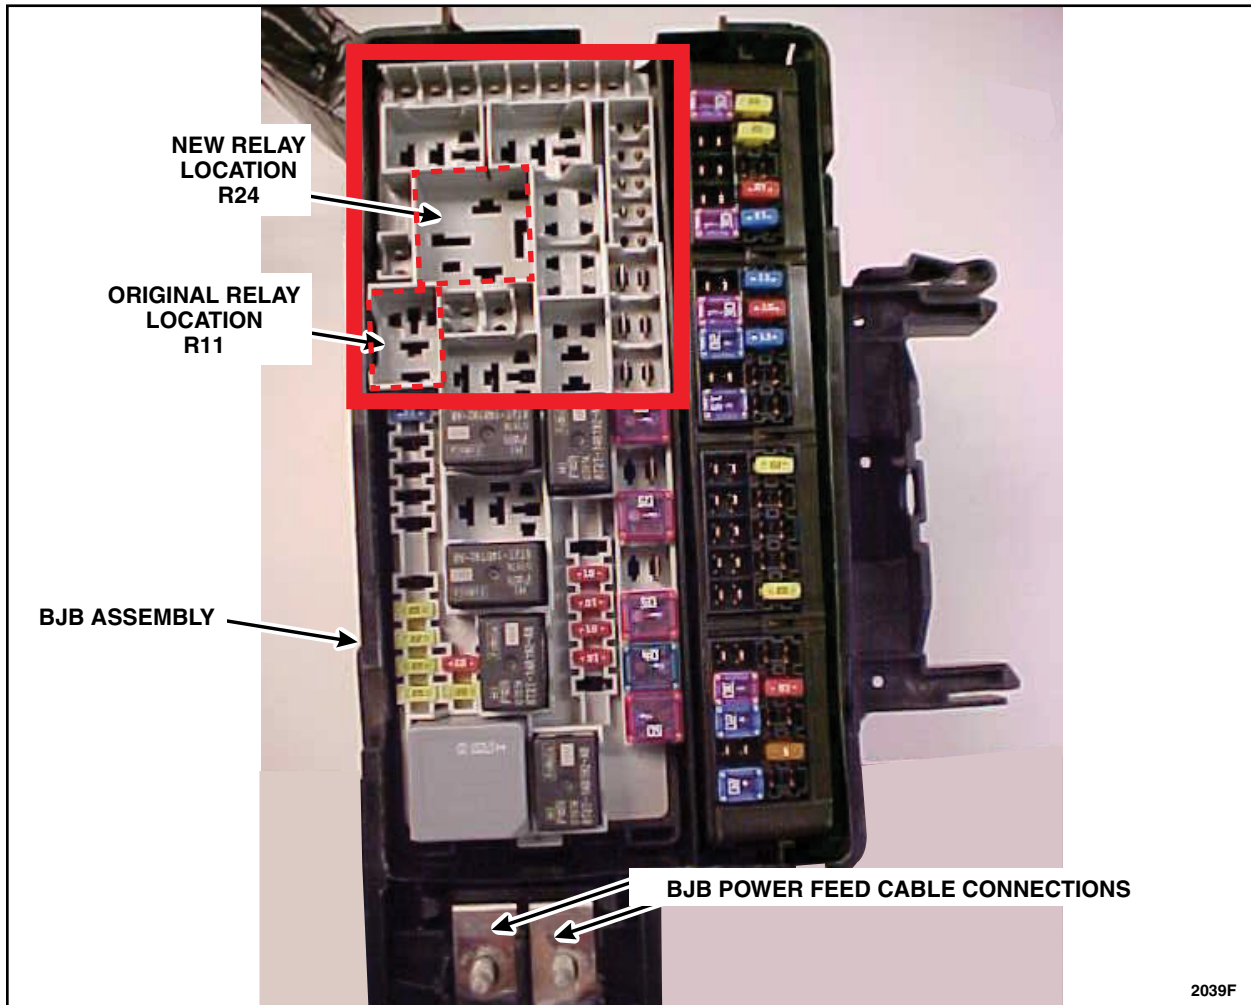

FIGURE 5
- Record the amperage and location of the fuses and location of the relay's in the area shown in Figure 5. Then, remove all of the fuses and relay's within the red boxed area shown. See Figure 5.